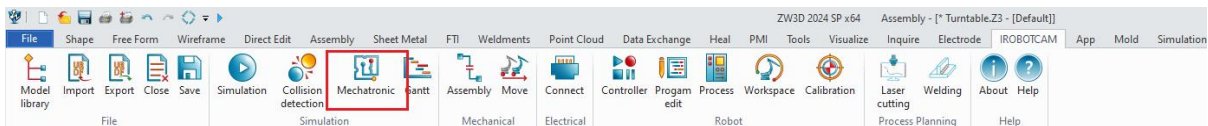

Figure 13-35: Mechatronic button
- Click the "Mechatronic" button.(Figure 13-35)